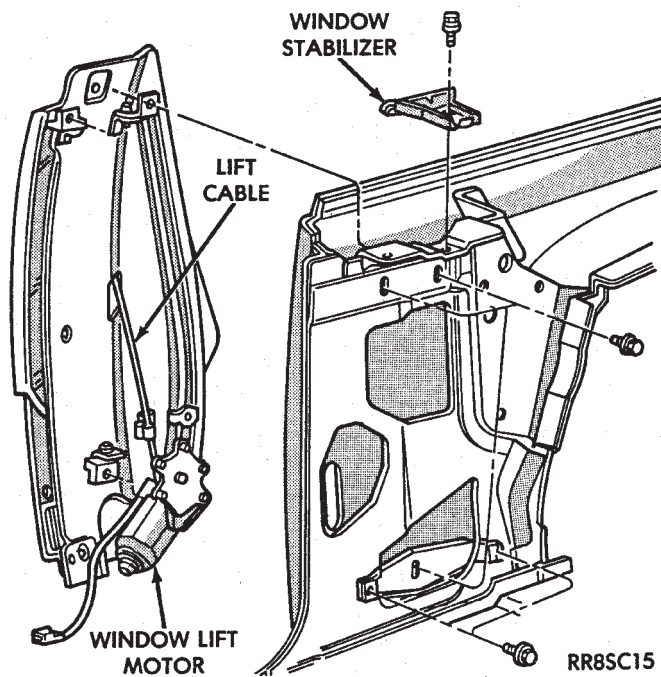

Fig. 20 Power Quarter Window — AJ Body
- (1) Remove the folding top sling well assembly.
- (2) Remove the quarter trim upper moldings.
- (3) Remove the cowl trim and scuff plate panels.
- (4) Remove the rear seat cushion.
- (5) Remove the quarter trim and rear seat back assembly.
(6) Remove quarter windows assembly (Fig. 20).